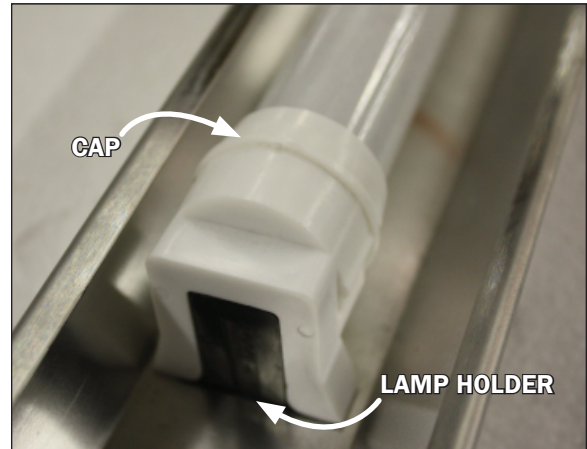

Fig. 7 T-8 cap and lamp holder
2. Carefully separate the cap from the lamp holder on both ends of the T-8 lamp (Fig. 7). Simultaneously pull down at both ends of the old T-8 lamp to remove.